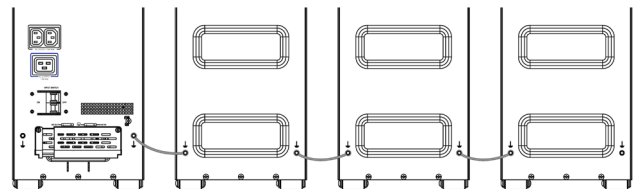

Fig. 41. Connecting several EBMs with additional earth links.
2. To add more than 2 EBMs, additional earth wires are required (10 mm section²) (Fig. 41).